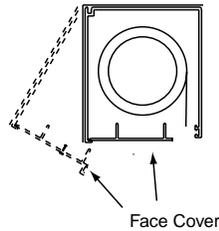

Figure 1
- ① Arrange pieces on floor in the general manner they are to be installed. All four corners are color coded by tape for easy matching.
- ② Remove covers from both headboxes (see Fig. 1).